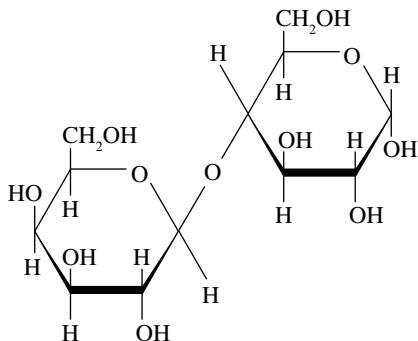

FIGURE 15.6.17 Structure of lactose.
- 4 The structure of lactose is shown in Figure 15.6.17. Lactose undergoes hydrolysis during digestion.